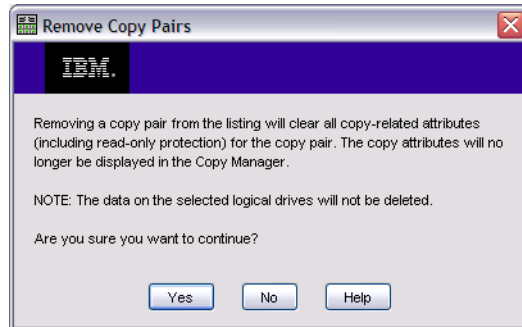

Figure 11-55 Remove Copy Pairs
1. Select the copy pair(s) and click **Remove**. You can use the Ctrl or Shift key for multiple selections. The Remove Copy Pairs confirmation window appears (Figure 11-55). Read the information and click **Yes**.